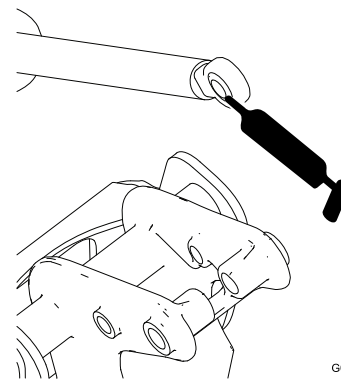

Figure 19
6. Manipulate the actuator rod bearing end and apply grease into the bearing (Figure 19).